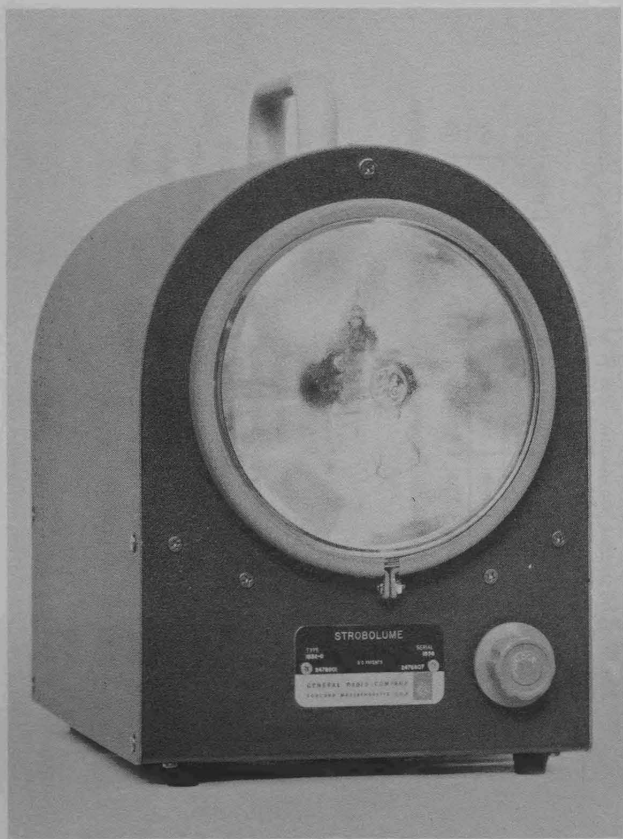

Figure 1. Type 1532-D Strobolume (front view)
**1.1 PURPOSE.** The Type 1532-D Strobolume (Figures 1 and 2) is a high-intensity light source useful in stroboscopic observations and photography. The illumination is short (between 30 and 40 microseconds) and bright enough to photograph considerable areas and relatively fast motion without blurring. It can be used either for single-flash work or for rates up to 1200 flashes per minute on HIGH INTENSITY for short periods, and up to 3000 flashes per minute on LOW INTENSITY. These ranges make possible the study of moderate-speed mechanisms, looms, and other textile machinery, fans, propellers, etc. The flashing rate can be controlled by an external contactor such as the Type 1535-B Contactor, or by the Type 1531-A Strobotac® Electronic Stroboscope (refer to paragraph 1.2.3.2).